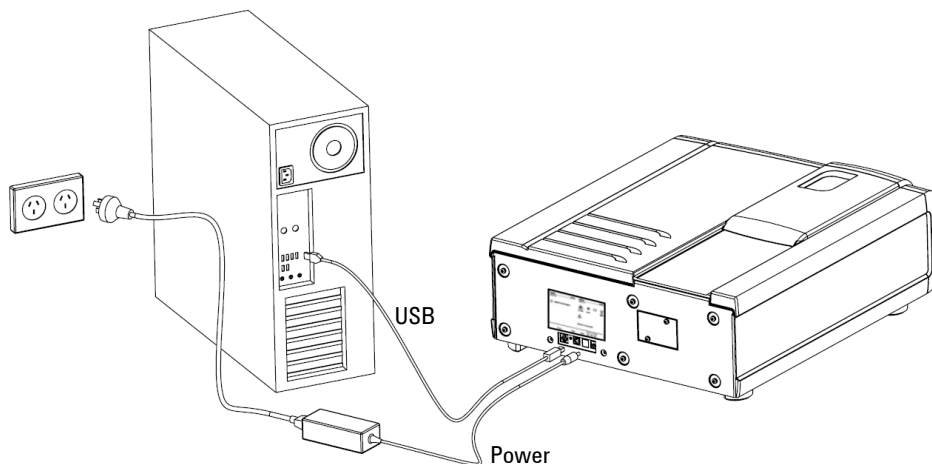

Figure 1. Hardware connections
- 2 Connect the power supply to the power cable and then plug in to the Cary 60 and wall power outlet. See Figure 1.